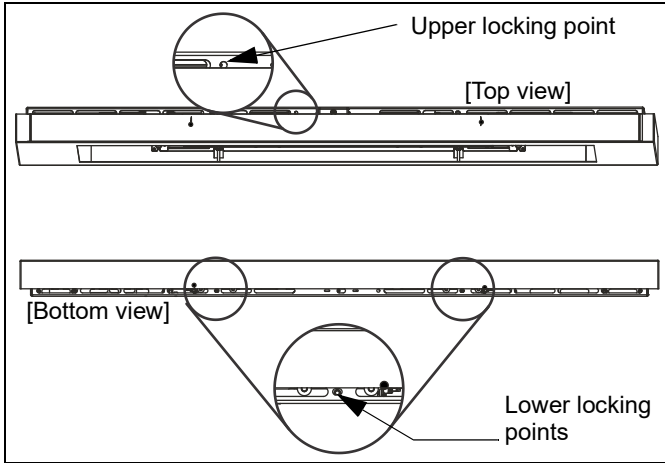

Figure 18
20. Add one 10-24 x 3/8" button head security screw (CB) in hole on top, AND two security screws in two holes on bottom to lock door. (See Figure 18)